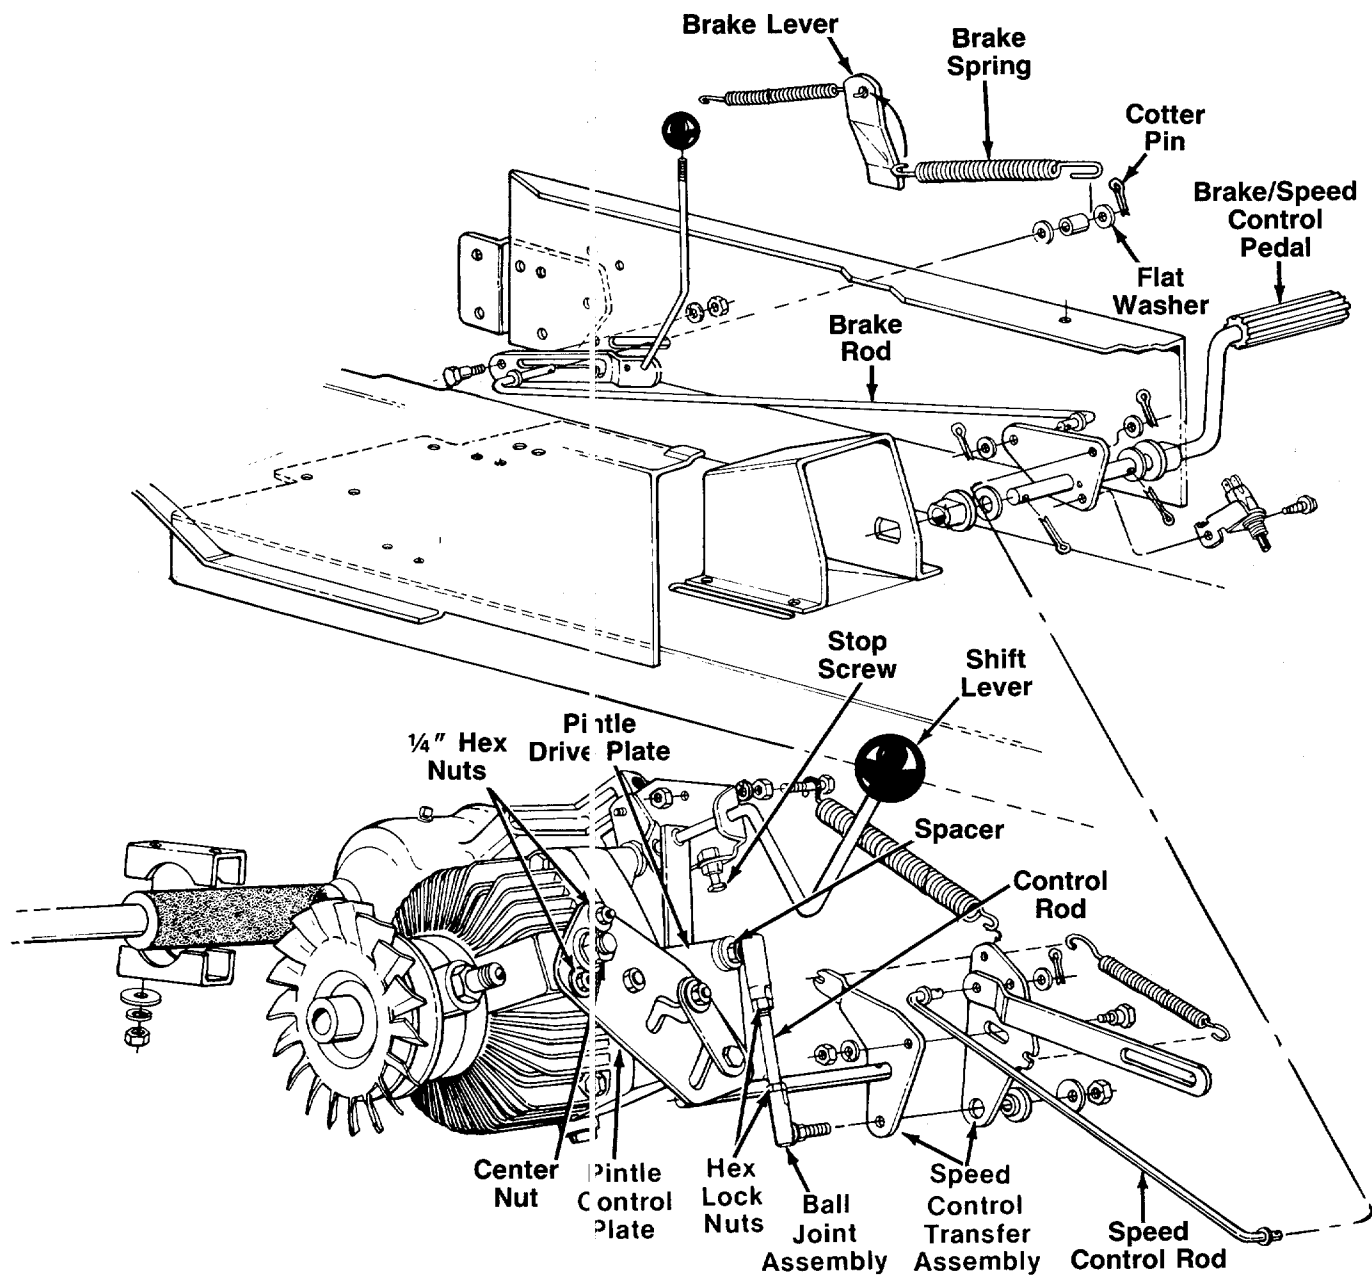

FIGURE 10.
HYDROSTATIC CONTROL ADJUSTMENT (See figure 10)
5. Move shift lever to forward position, and move pintle control plate to fast forward (position shown in figure 10). Be certain to hold the pintle control plate in this position as you tighten the hex nuts in steps 6 and 7.
NEUTRAL ADJUSTMENT (See figure 10)